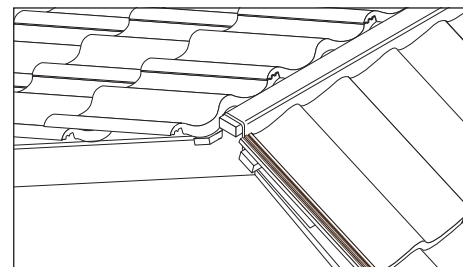

Fig. 3 – Tile to ridge
- 3 Finish tiling the roof up to the ridge (Fig. 3).